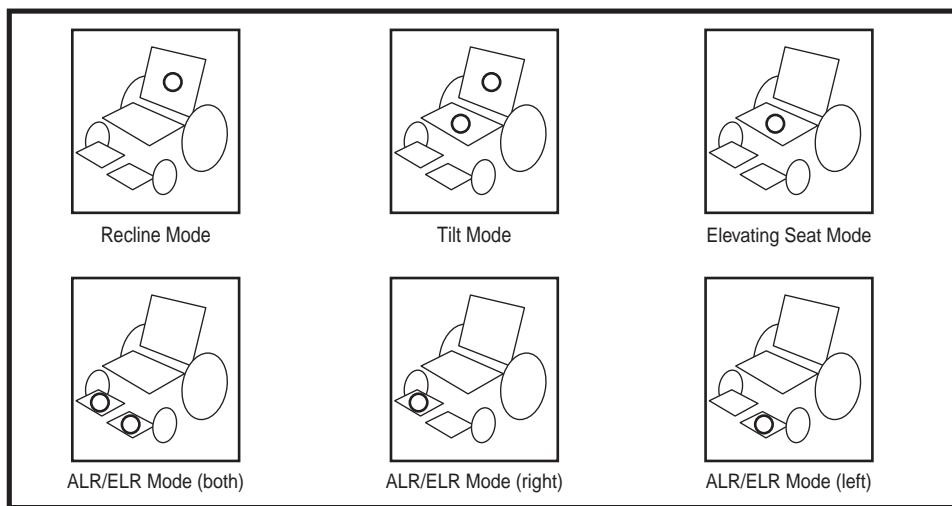

Figure 10. Actuator Modes
2. Press Select until the desired actuator is illuminated on the actuator indicator (see figure 10).
3. Push the joystick to the right to cycle through the available actuators until the seat back light is illuminated on the actuator indicator. See figure 10.